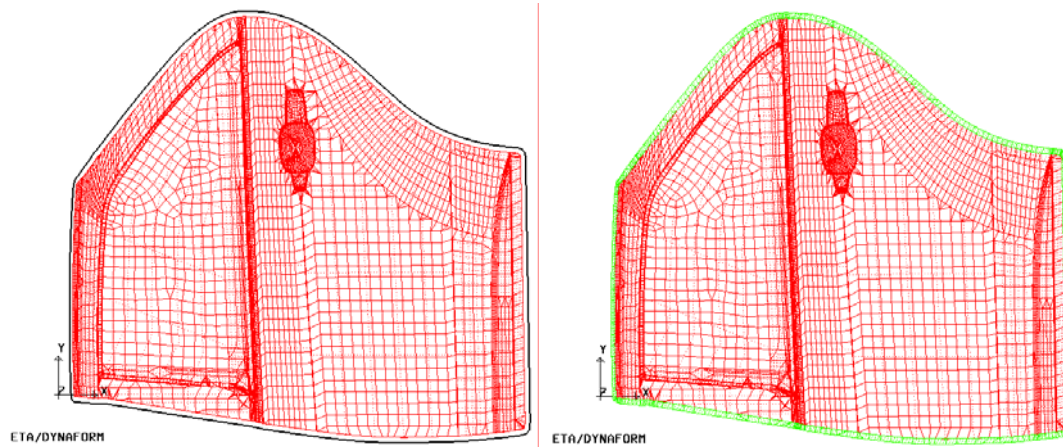

Figure 6.1.41 An Example of Boundary Expand
1. Click the **BOUNDARY EXPAND** button, and the extension boundary is highlighted as shown in the left picture of Figure 6.1.41. The default extension value is calculated from the average element size. The user can enter another extension value and click **BOUNDARY EXPAND** again.